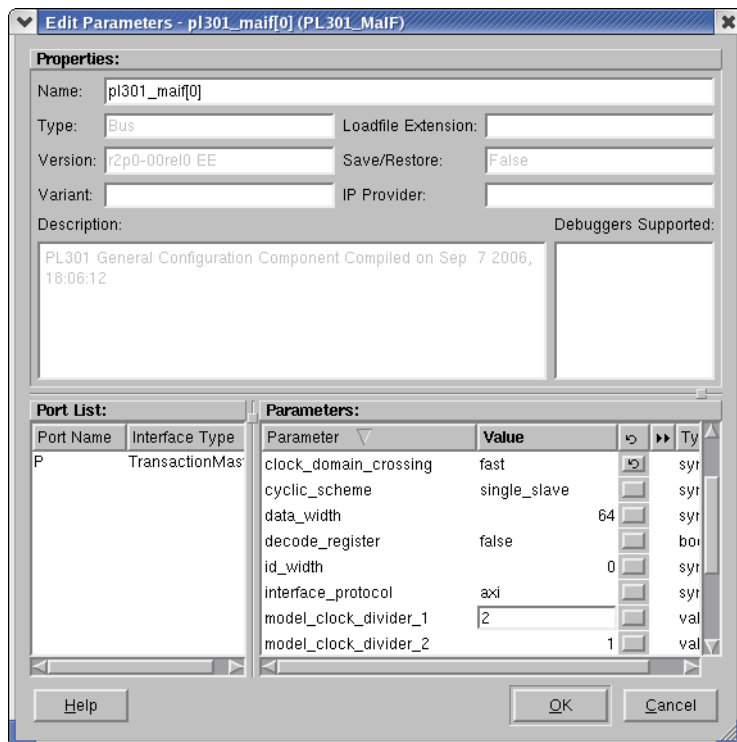

Figure 4-29 Clock domain crossing for master 0
3. Enter 2 in the `model_clock_divider_1` parameter field, as Figure 4-29 on page 4-31 shows.